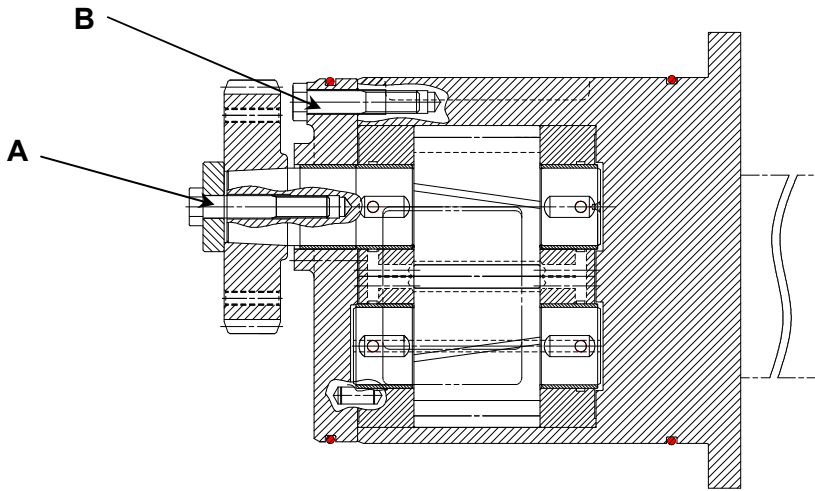

Fig.1 The lubricating oil pump (윤활유 펌프)
1. Loosen the bolt (A) as shown in fig. 1, and dismount the bolt and the spur gear.
2. Loosen the bolts (B), and dismount the bolts and the cover.